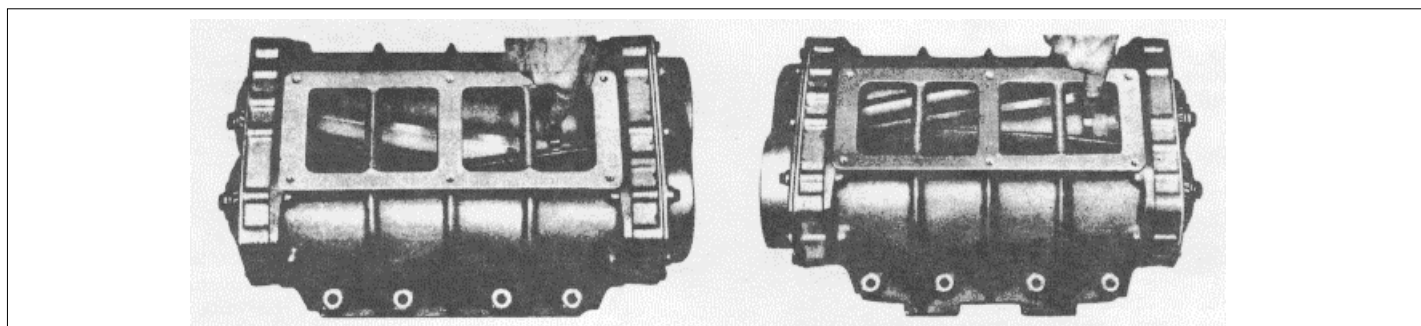

Fig. 21
The clearance between the rotor lobes should be checked with 1/2" feeler gauges in the manner shown in Fig. 21. When measuring clearances of more than .005", laminated feeler gauges that are made up of .002", .003" or .005" feeler stock are more practical and suitable than a single feeler gauge. Clearances should be measured from both the inlet and outlet sides of the blower.
- (1) 71 Blower--Time the rotors to have .002" to .006" clearance between the TRAILING edge of the UPPER rotor and LEADING edge of the LOWER rotor ("cc" clearance) measured from both the inlet and outlet sides as shown in Figs. 21 and 22. If possible, keep this clearance between the LEADING edge of the UPPER and the TRAILING edge of the LOWER